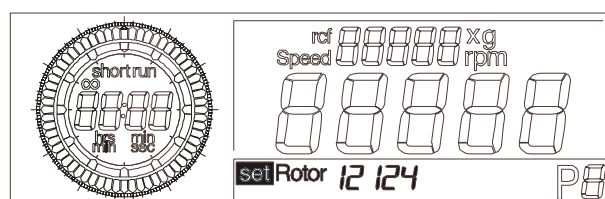

Fig. 5.14: Preselection of a rotor
- Turn the left rotary knob until the "set" cursor appears in front of the option "Rotor" on the display (Fig. 5.14).